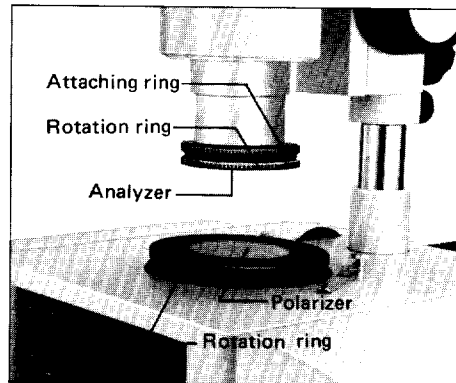

Fig. 24
4. Polarizing set "B" (Fig. 24)